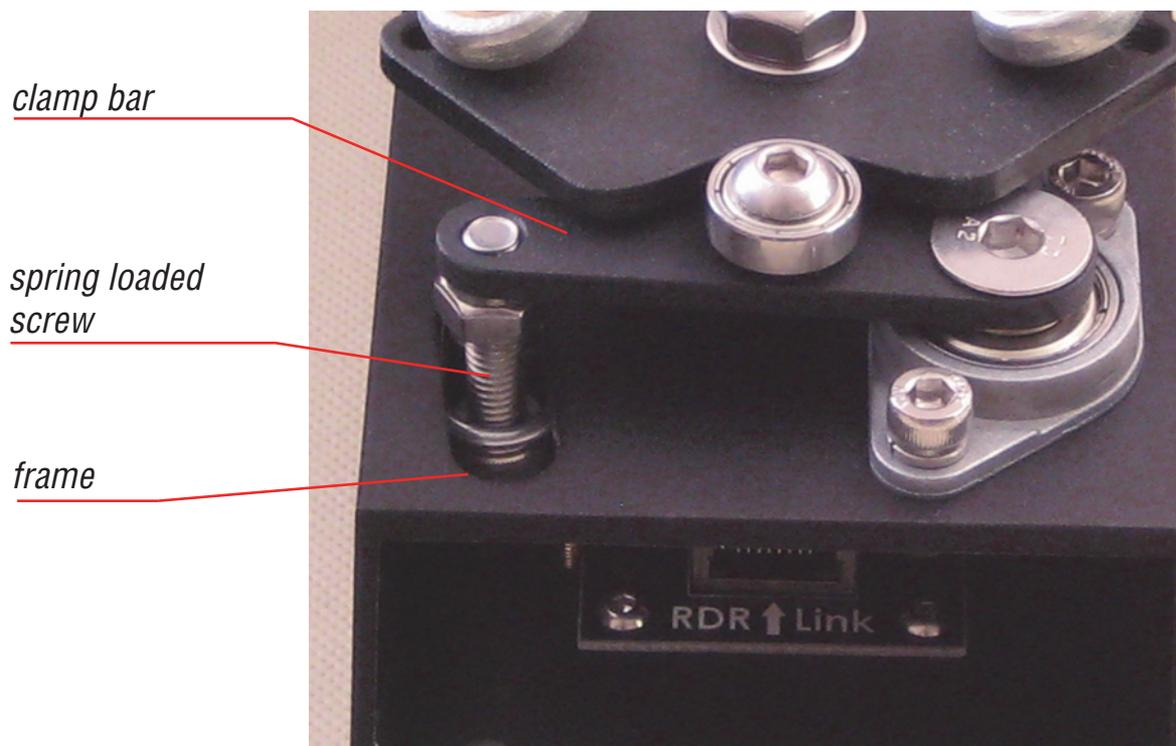

Fig. 2.2.
- 3.2. Look at the frame in the case (fig. 2.2). The gap between the body of the spring loaded screw and frame edge must be at least some millimeters.